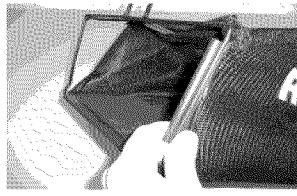

Figure 12 - Attach Clips to Frame
2. Pull cloth bag toward rectangular wire frame opening and attach cloth bag to wire frame with integrated plastic clips. (see Figure 12).